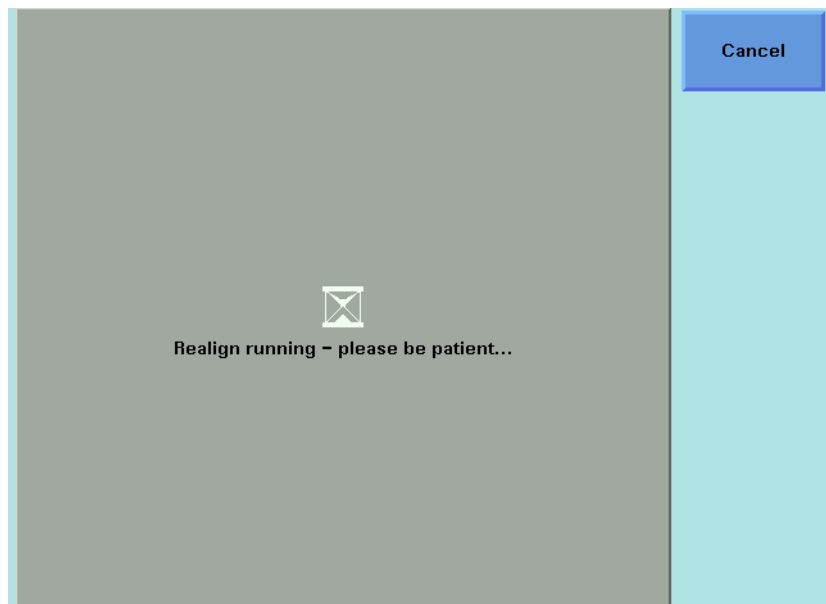

Figure 81 Realignment Screen
- 2 Move to *<Realign>* and press *[OK]*. You will see the screen in Figure 81 .